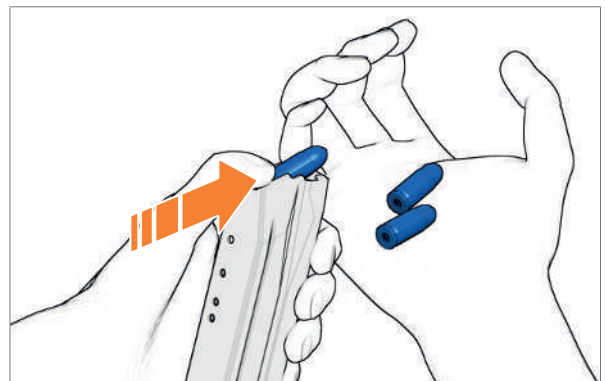

Fig. 58: Empty the magazine
- › Push cartridges forwards out of magazine (*Fig. 58*).